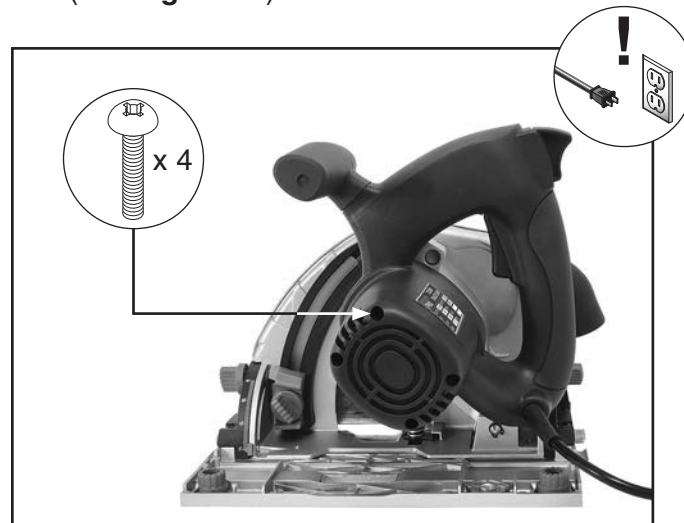

Figure 29. Location of motor cover screws.
3. Loosen and remove (4) motor cover screws (see **Figure 29**).